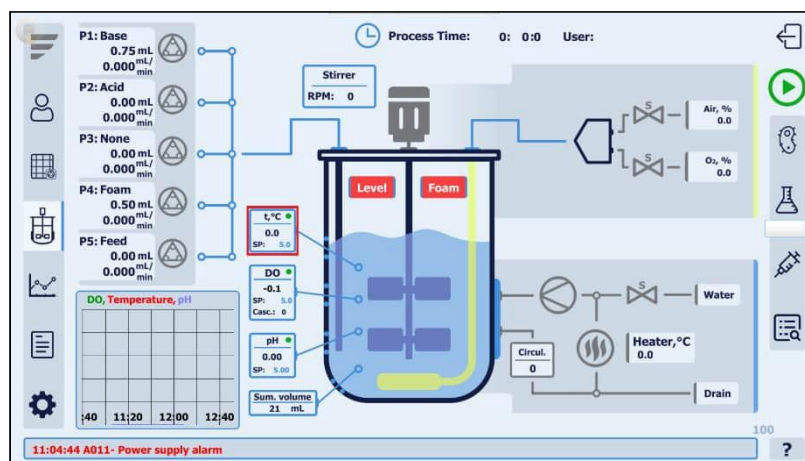

Figure 7.1. Stirrer's control window
The stirrer control window can be entered by using the following access path: MENU → REACTOR and pressing the respective symbol. In the stirrer control window it is possible to enter the stirrer's SP value, turn it ON/OFF and monitor its process value (PV), see Figure 7.1. Also, the desired operation mode – Manual/Automatic can be chosen.